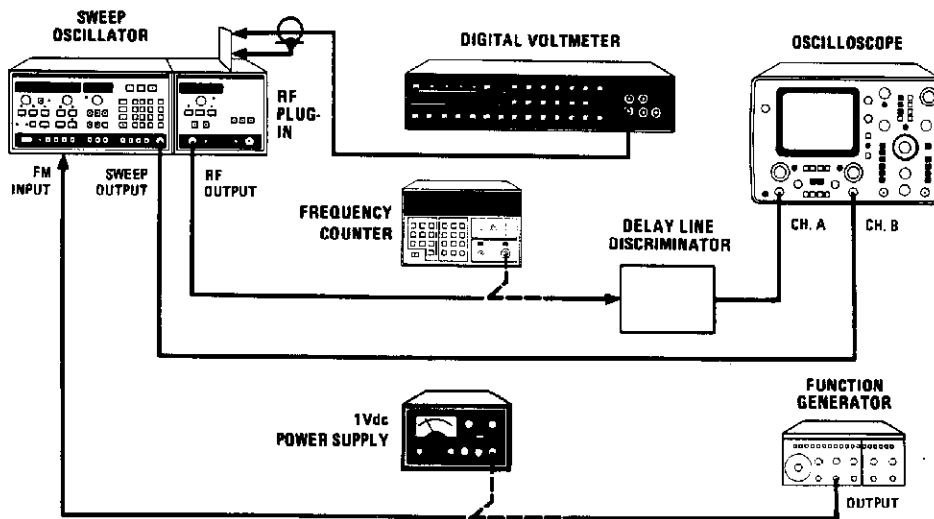

Figure 5-45. Test Setup for FM Driver Adjustments
1. Connect the equipment as shown in Figure 5-45. Connect the Frequency Counter to the Model 83592C RF OUTPUT connector. Do not connect the Power Supply or Function Generator to the Model 8350A/B rear-panel FM INPUT connector yet. Allow the equipment to warm up for one hour.